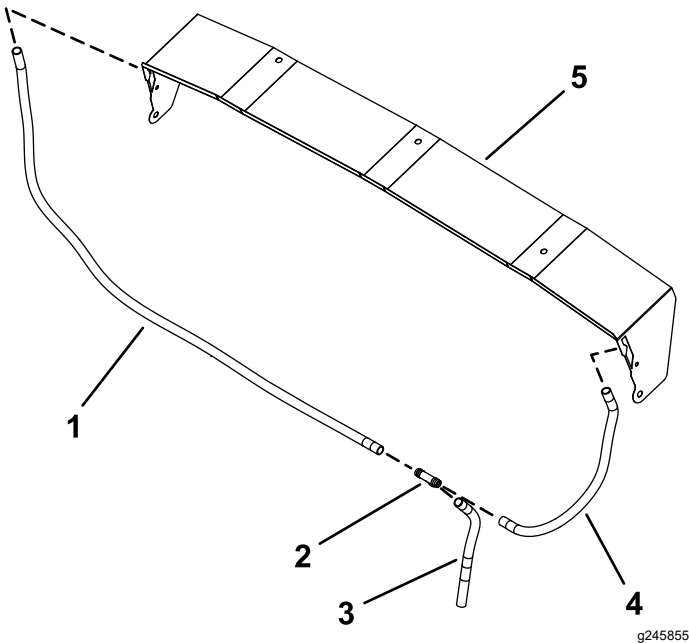

Figure 42
- Connect the 122 cm (48 inches) clear tube to the 33 cm (13 inches) clear tube and 43 cm (17 inches) clear tube using the tee fitting (Figure 42).